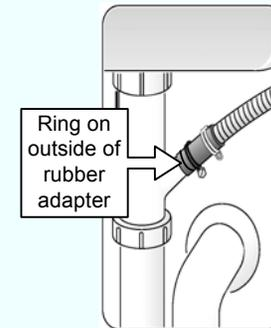
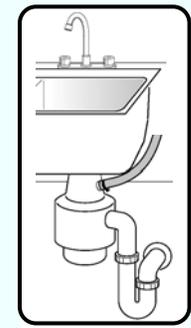

Figure 22
Figure 23
- 1) Directly to the undersink dishwasher drain connection, as shown in Figure 22.
- 2) Directly to a disposer dishwasher drain connection, as shown in Figure 23.
**NOTE:** If the dishwasher drain hose is to be connected to a disposer dishwasher drain connection, remove the plug from the disposer's dishwasher drain connection. Use the supplied Rubber Connection Hose and Drain Hose Clamps (letter G in the Materials Supplied section of the installation instructions) to connect the dishwasher drain hose to the plumbing drain connection. Use the spring clamp to secure the Rubber Connection Hose to the dishwasher drain hose. Use the screw clamp to secure the Rubber Connection Hose to the plumbing drain connection. If the dishwasher drain hose is connected directly to either an undersink dishwasher drain connection, as shown in Figure 22, or to a disposer dishwasher drain connection, as shown in Figure 23, form a high loop in the dishwasher drain hose and secure a portion of the loop at least 20" (508mm) above the cabinet floor.